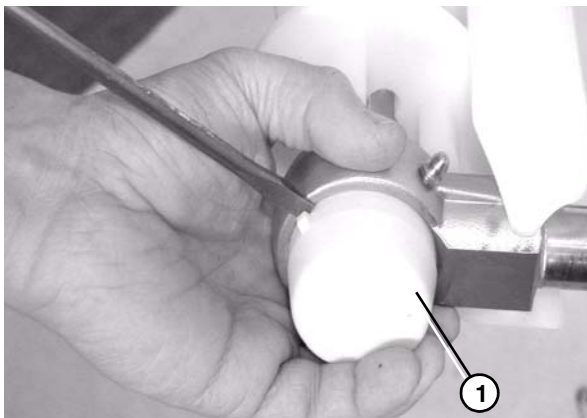

Figure 69
3. Remove the bearing cover (**Figure 69, item 1**).
6. Attach the bearing covers. Reference (Figure 69).